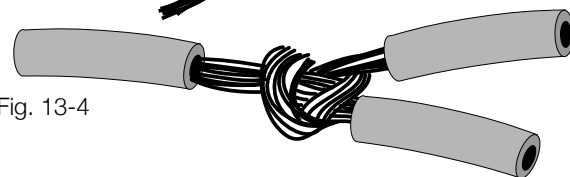

Fig. 13-4
- 3) Insert the wire from the fused link into the spread wire in the vehicle. Wrap around the wire several times. See Fig. 13-4